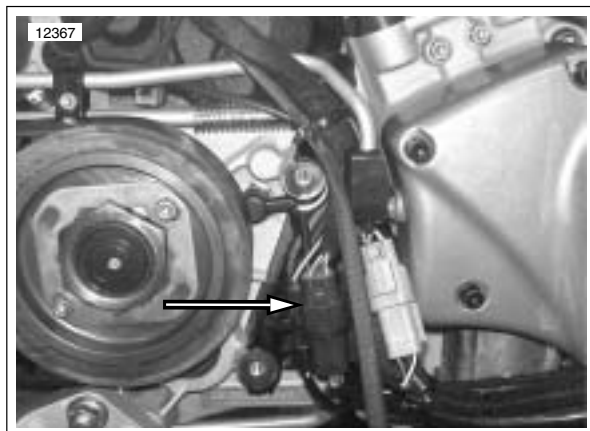

Figure 4-67. Cam Position Sensor Connector [14]
4. See Figure 4-67. Disconnect cam position sensor wiring at connector [14].